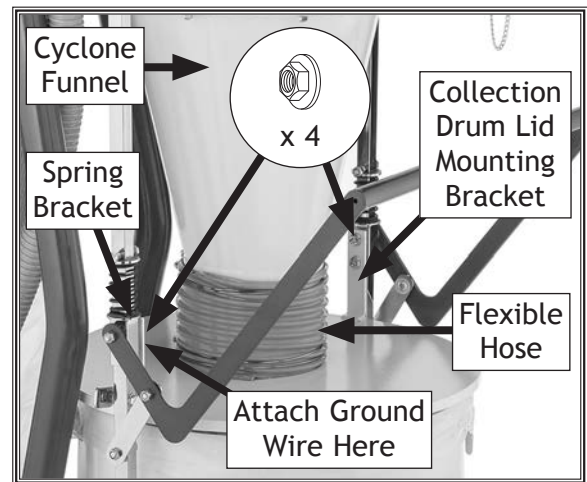

Figure 17. Collection drum lid and related components installed.
12. Place (2) hose clamps around flexible hose, then slide hose over port on collection drum lid and tighten clamp (see **Figure 17**).
13. With collection drum lid mounting brackets facing up, orient lid so dust port, flexible hose, and spring brackets align (see **Figure 17**).
14. Attach flexible hose to cyclone funnel and secure with (1) hose clamp (see **Figure 17**).
15. Connect ground wire to spring bracket stud, then secure lid and ground wire using (4) $\frac{5}{16}$ "-18 flange nuts (see **Figure 17**).